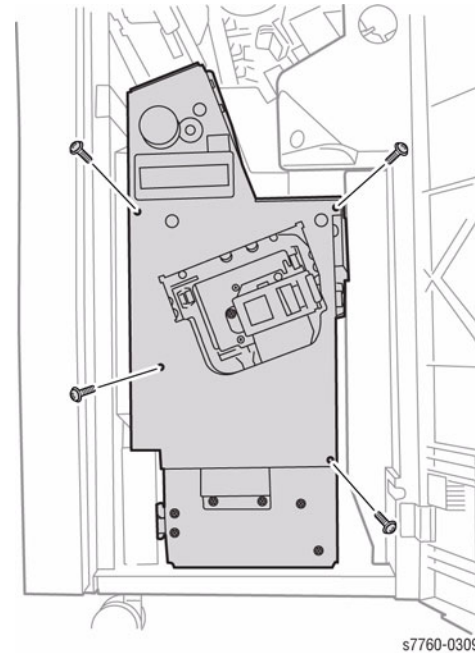

Figure 2 Removing the Booklet Maker Front Cover
3. Remove 4 screws and the Booklet Maker Front Cover (Figure 2).